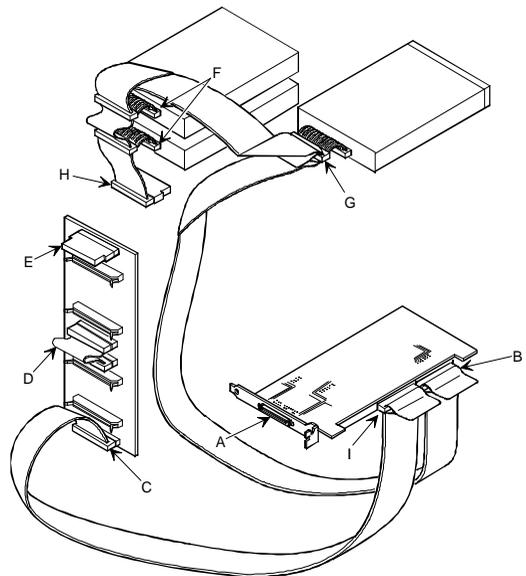

Figure 3 - 25 3-Channel RAID Bus (Two Internal Channels and One External Channel)
- 1) Connect the SCSI cables as shown in Figure 3 - 26. If necessary, connect appropriate power cable to device.